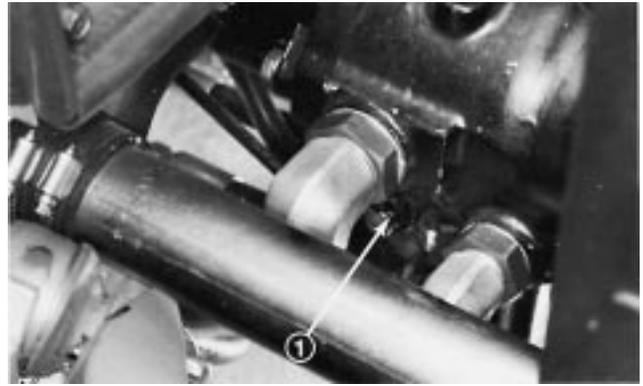

Figure 29
1. By–pass valve is located in left side of variable displacement pump (Fig. 29). Rotate the valve 1/2 to 1 turn counter–clockwise to open and allow oil to by–pass internally. Because fluid is by–passed, the machine can be moved – slowly – without damaging the transmission.